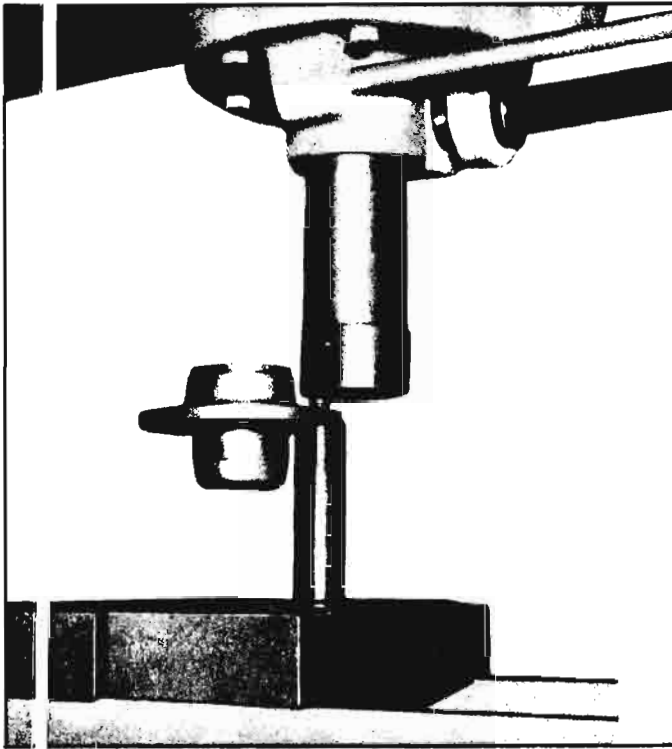

Fig. 3-54—Pressing Stud—Front Hub
1. Wheel studs are not staked on replacement. They may be easily removed and installed on an arbor press. Place a socket under stud being removed or installed and bring press ram in direct contact with stud shank or head (fig. 3-54).